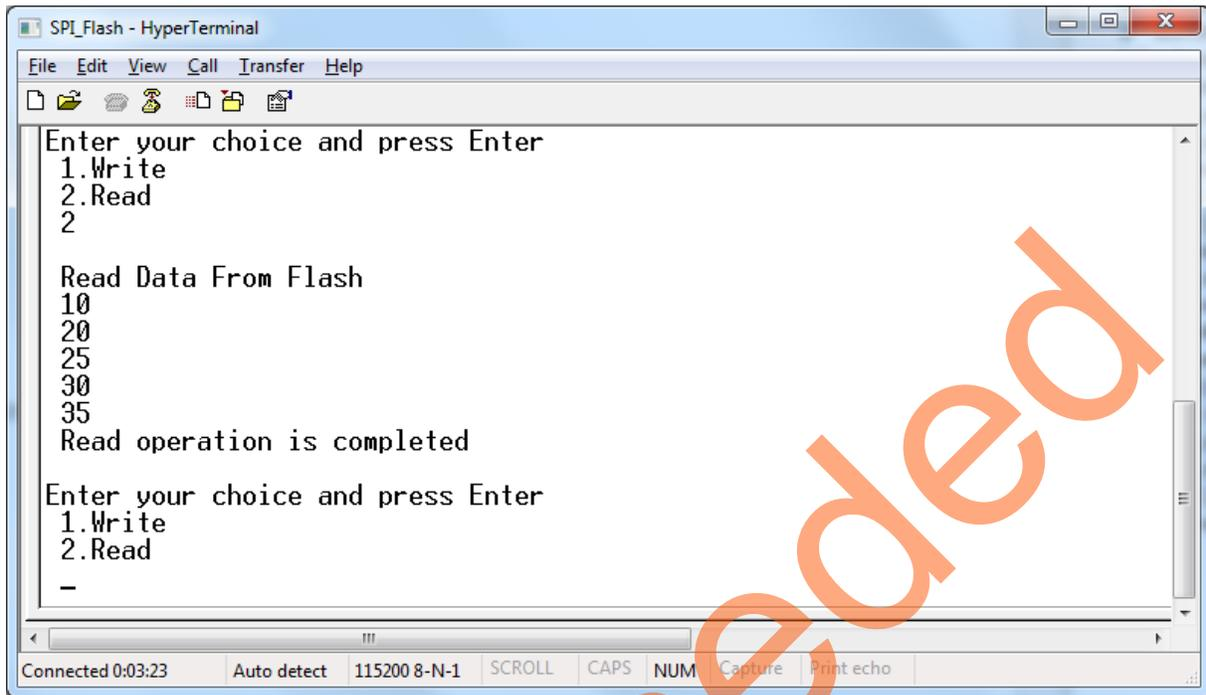

Figure 45 • HyperTerminal Window - Option 2
- Select option 2 to read data from SPI Flash Memory, as shown in Figure 45.